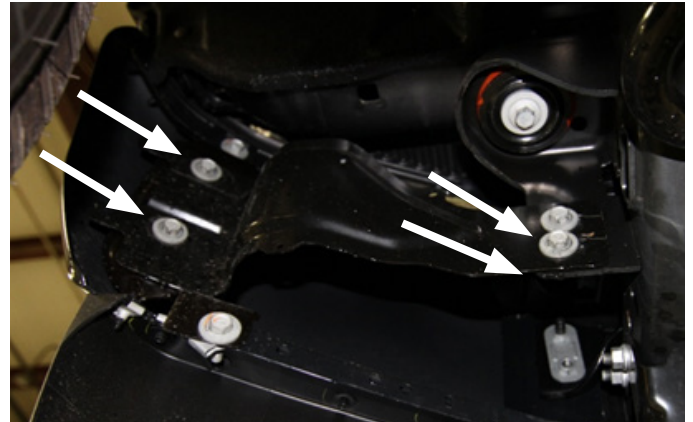

Figure 1
1. Using a 15mm socket wrench, remove the four (4) bolts from the bumper supports on both side of the vehicle located by the wheel well. (Figure 1)